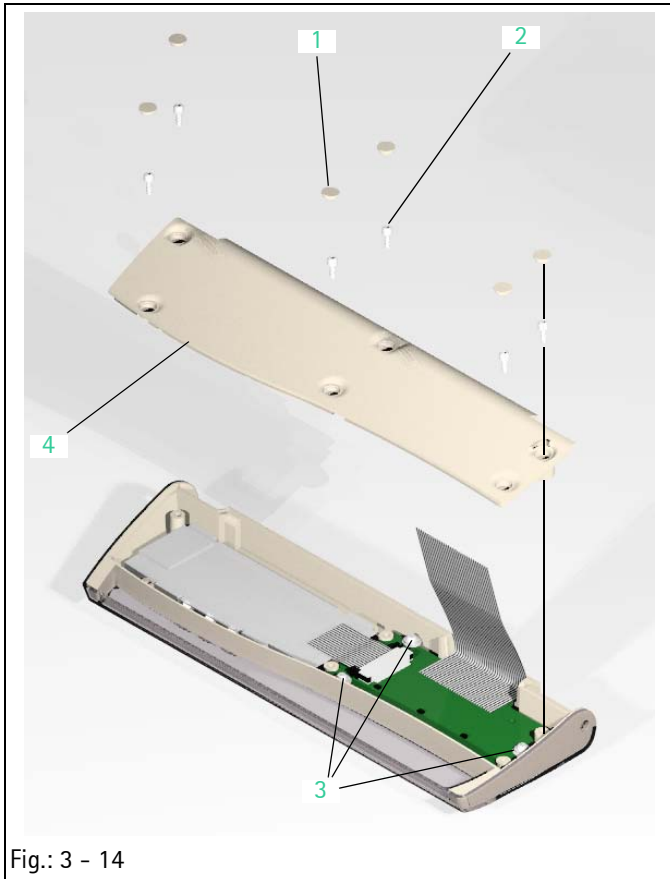

Fig.: 3 - 14
- 6. Pull the operating unit from the left hinge plate (Fig.: 3 - 13 / Item 3).
- 7. Pierce two cover caps (Fig.: 3 - 13 / Item 1) with a small screwdriver and remove cover caps.
Legend of fig. 3 - 14: